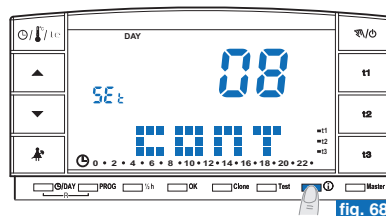

fig. 68
- From the previous screen, press **i** again: the display will show the message **CONT** along with the value of active contrast, factory set **08** (example in fig. 68).